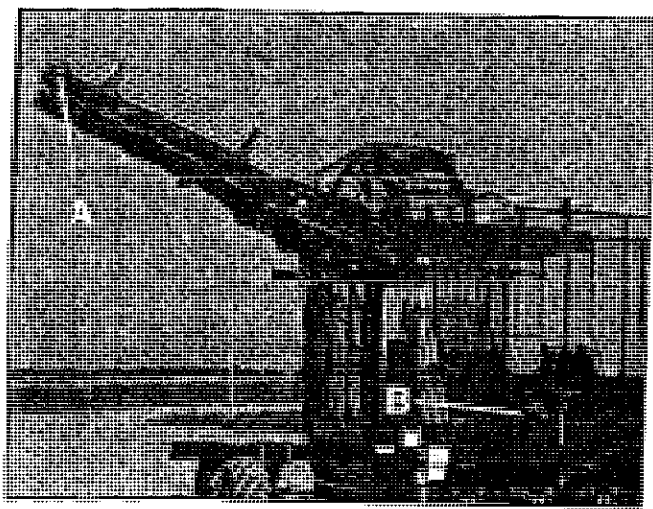

Figure 2.01: Basic Controls. (A) - Truck/Tank Motor; (B) - Tank Motor.
Beets are diverted to the tank or truck by a hydraulic motor (A) (see Figure 2.01). The tank is unloaded by use of hydraulic motor (B) on the tank unloading chain.